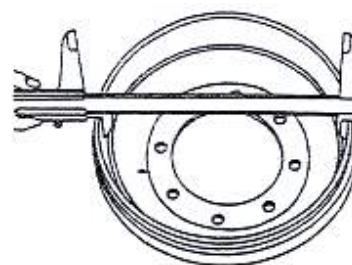

Fig. 2-26
- (5) Visually check the inner surface of brake drum. Grind it in case of damage or eccentric wear. Replace it in case the wear exceeds the limit. Standard value: 314mm; limit value: 316mm. See Fig. 2-26.